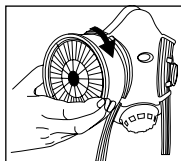
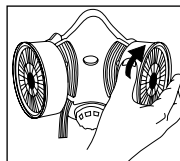

Fig. 1
Fig. 2
1. Align the two filters with the face piece and turn to secure - see Fig.1 & Fig.2.